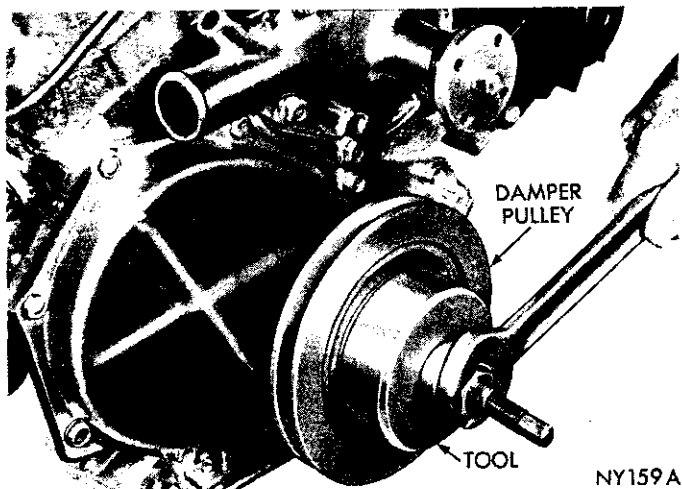

Fig. 28—Installing Vibration Damper Assembly
- (1) Be sure mating surfaces of chain case cover and cylinder block are clean and free from burrs.
- (2) Using a new gasket, slide chain case cover over locating dowels and tighten bolts to 15 foot-pounds. Be sure all oil pan gaskets are in place and tighten oil pan bolts to 200 inch-pounds.
- (3) Place damper pulley assembly hub key in the slot in crankshaft, lubricate seal lip with Lubriplate and slide hub on the crankshaft.
- (4) Place installing tool, part of puller set Tool C-3732A in position and press damper pulley assembly on the crankshaft (Fig. 28).